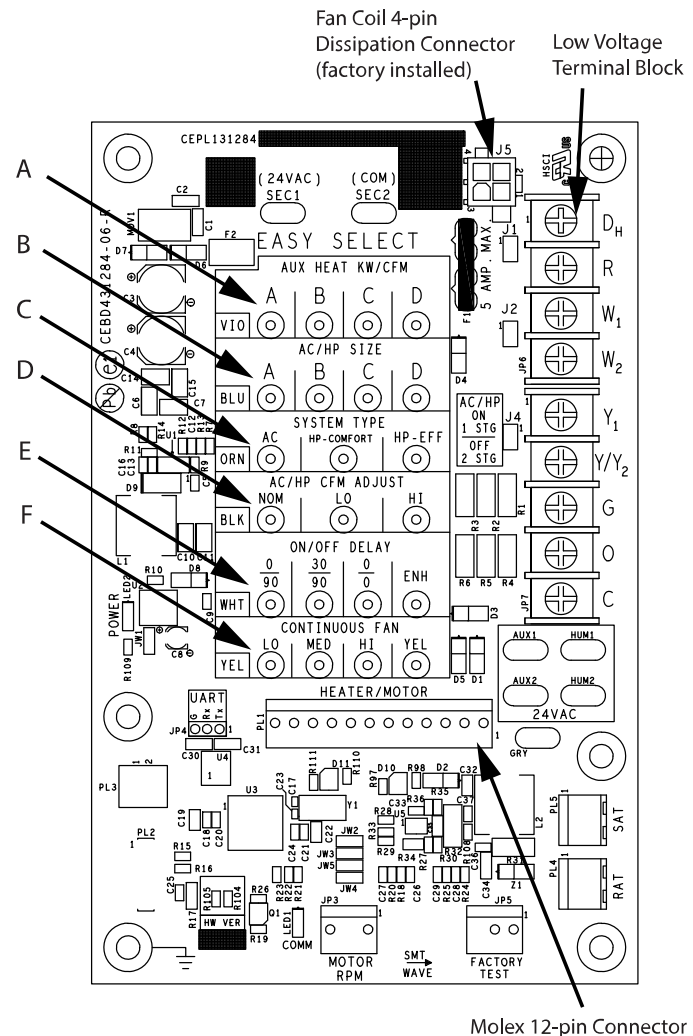
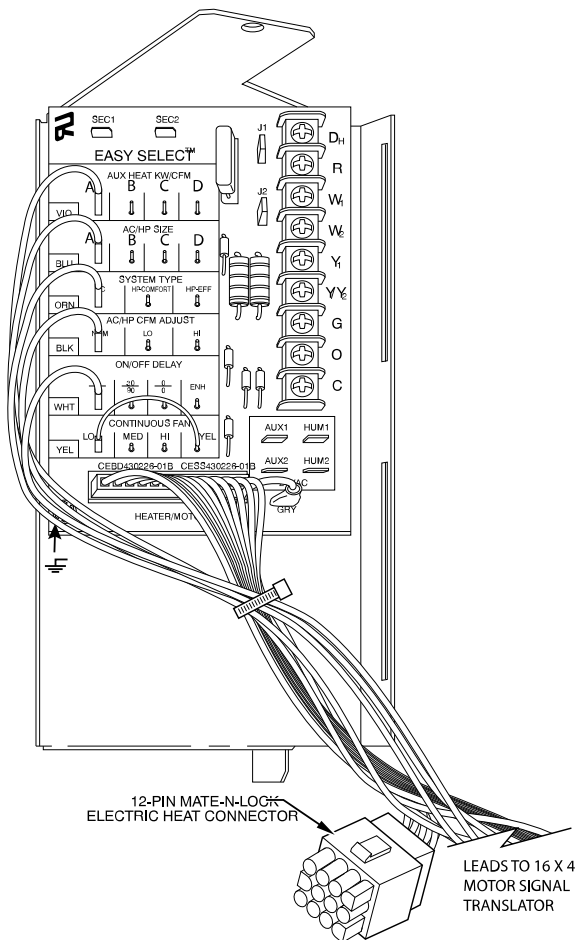

Fig. 20 – Detail of Printed-Circuit Board
Fig. 21 – Connection Detail of Printed-Circuit Board (also showing 12-pin cable), applicable to FT5, FG5
Easy Select taps are used by the installer to configure a system. The ECM motor uses the selected taps to modify its operation to a pre-programmed table of airflows (see Table 8 and Table 10). Airflows are based on system size or mode of operation and those airflows are modified in response to other inputs such as the need for de-humidification (see Fig. 20 and Fig. 21 and Table 6).
Installer must select the auxiliary heat airflow approved for application with kW size heater installed. If no heater is installed, this step can be skipped. Each select pin is marked with a range of heaters for which airflow, also marked, is approved. For increased comfort select the narrowest kW range matching the heater size, for example, 0-10 for 10-kW heater. This airflow must be greater than the minimum CFM for electric heater application with the size system installed for safe and continuous operation (see Table 11 and Table 12 for airflow delivery and minimum CFM). Note that airflow marked is the airflow which will be supplied in emergency heat mode and heating mode on air conditioners when electric heat is the primary heating source. In heat pump heating mode when electric heaters are energized, the ECM motor will run the higher of heat pump heating airflow and electric heater airflow to ensure safe heater operation. The factory selection is the largest heater range approved (see Fig. 20, A as indicated).
The factory setting for air conditioner or heat pump size is the largest unit meant for application with the model of fan coil purchased. Installer needs to select air conditioner or heat pump size to ensure that airflow delivered falls within proper range for the size unit installed. This applies to all operational modes with the exception of electric heat modes (see Fig. 20, B as indicated).
3. HP-EFF - Heat Pump Efficiency provides same airflow for heating and cooling modes to increase overall HP efficiency; approximately 350 CFM per ton. The factory setting is AC. (See Fig. 20, C as indicated.)
To provide airflow at rates described above, the AC/HP ADJUST select is factory set to the nominal (nom) tap. The adjust selections HI/LO will regulate airflow supplied for all operational modes, except non-heat pump heating modes. HI provides 15% airflow over nominal unit size selected and LO provides 10% airflow below nominal unit size selected. Adjust selection options are provided to adjust airflow supplied to meet individual installation needs for such things as noise, comfort, and humidity removal (see Fig. 20, D as indicated).
Four motor operation delay profiles are provided to customize and enhance system operation (see Fig. 20, E as indicated). Selection options are:
3. HI speed - move connector of HI, 100% cooling mode airflow (see Fig. 20, F as indicated).
7. If the fan coil is installed with Heat Staging capable electric heaters, remove jumper J2 (see Fig. 20).
The AUX and HUM terminals on the Easy Select Board are tied directly to the G terminal, and provide a 24VAC signal whenever the G terminal is energized (see Fig. 20).